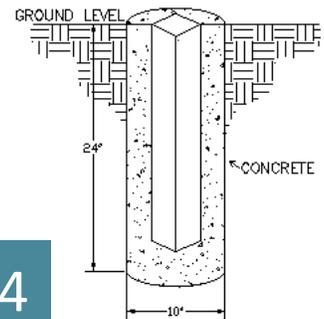

Fig. 4
1. Dig holes for posts making sure not to disturb stakes for the string. The string may be removed and replaced after holes are dug. The holes should be approximately 10" diameter and 24" deep (depending on local codes). Holes should be dug so that they allow equal amounts of concrete on all sides of posts (see Fig. 4).